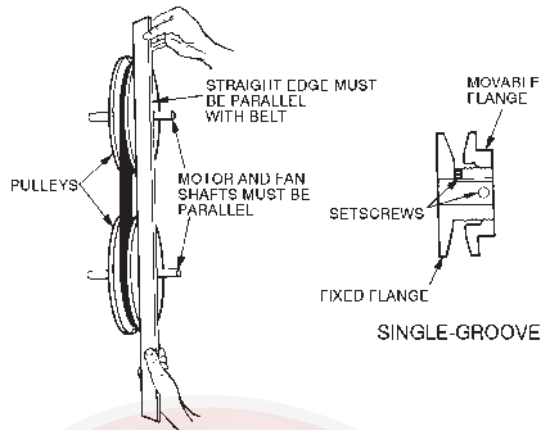

Fig. 10 – Supply-Fan Pulley Adjustment
of a fixed flange side that faces the motor (secured to the motor shaft) and a movable flange side that can be rotated around the fixed flange side that increases or reduces the pitch diameter of this driver pulley. See Fig. 10.
3. Loosen movable pulley flange setscrew. See Fig. 10.